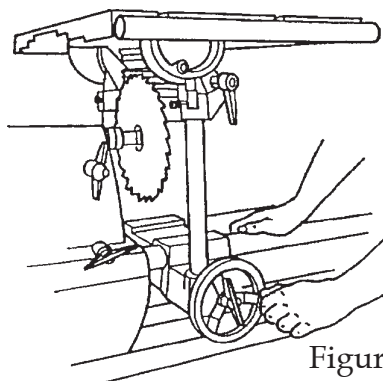

Figure C-28
19. Reinstall the table insert (138) in the worktable.
21. Loosen the carriage lock and slide the carriage so the saw blade is directly beneath the slot in the table insert. See Figure C-28.